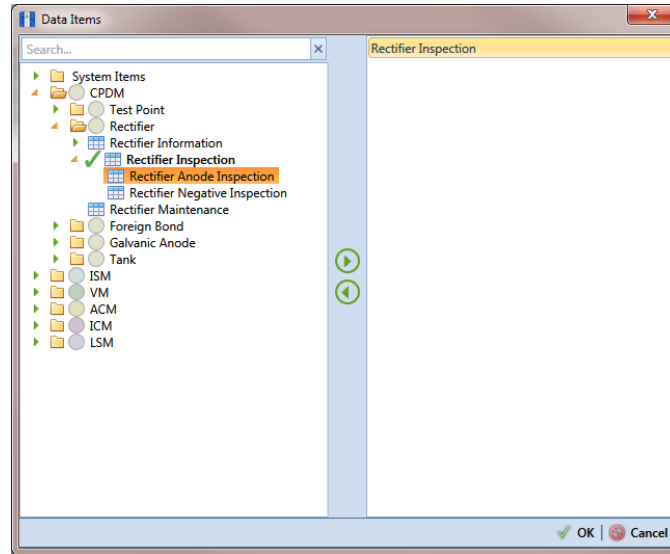

Figure 10-19. Data Items
- 13 Choose the data item(s) you want to export from PCS Axis. Click  **Add Data Item** to open the *Data Items* window and then complete the following steps (Figure 10-19, page 474):